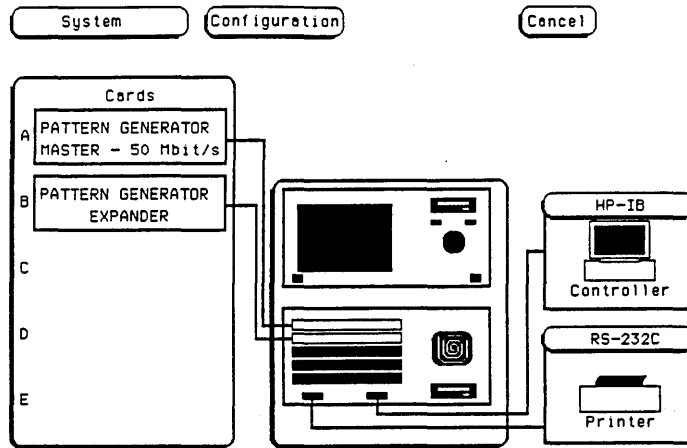

Figure 3-15. Startup Screen
d. From the startup screen shown in figure 3-15, touch the following field in the ordered sequence below: